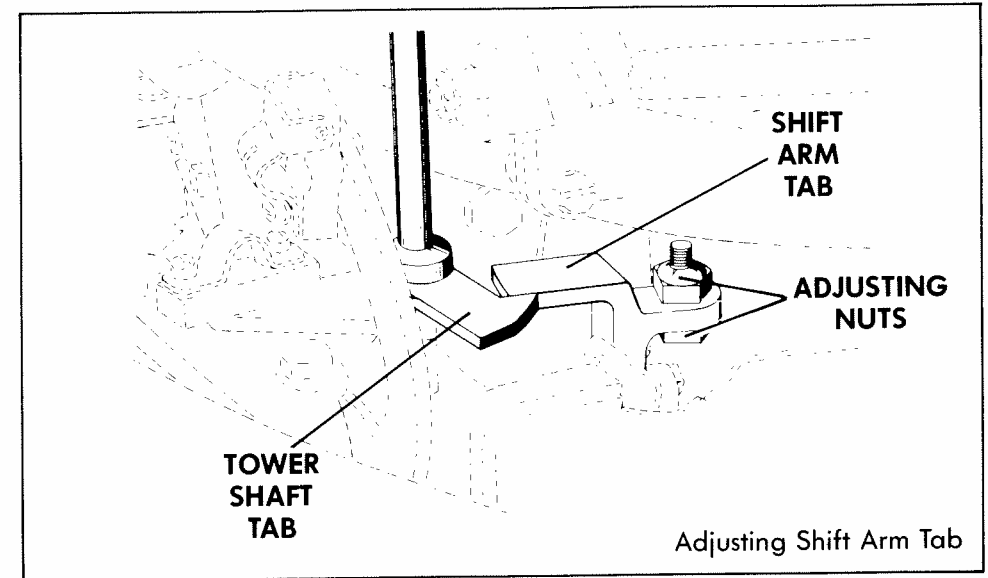

FIGURE 6
9. Raise or lower tab on shift arm until it is aligned with tab on towershaft. (See Figure 6.)